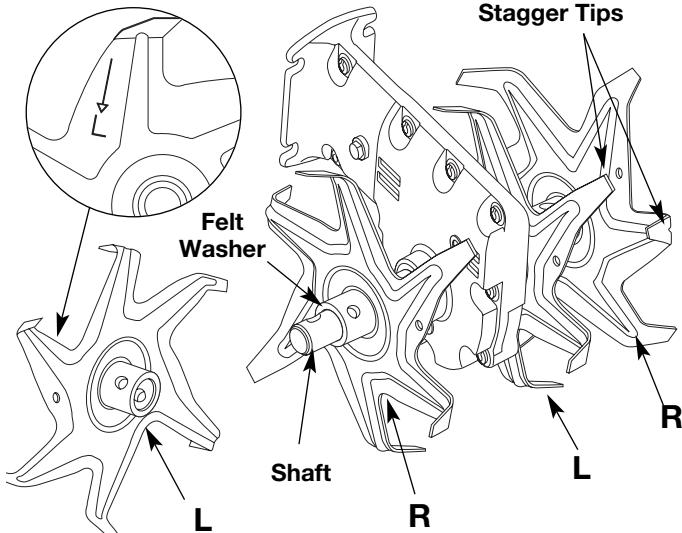

Fig. 12
7. Before you reinstall the clevis pins and pin clips, ensure that the tips on the tines are staggered when compared to each other (Fig. 12).